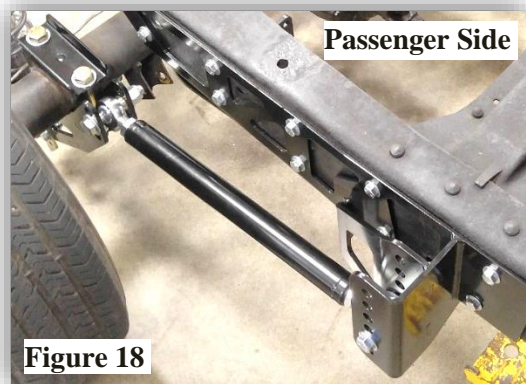

Figure 18
27. Support the axle under the frame and connect the trailing arm to the center hole in the axle bracket using 5/8" x 3.5" bolt, washers, and nylock nut from Trailing Arm Hardware Kit (p/n 7039-230). **(Figure 18)** Final torque of 90 lb. ft. Changing the instant center by raising or lowering the arm on this bracket can be adjusted after final ride height is determined.